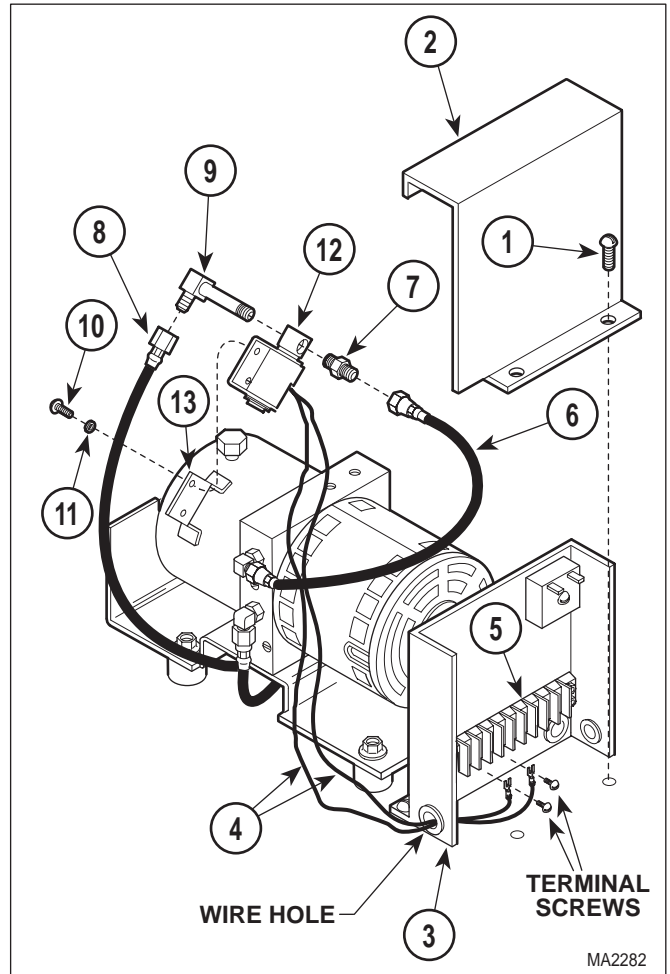

Figure 4-5. Anti-cavitation Solenoid Valve Removal / Installation
- (1) Unplug table power cord from outlet.
- (2) Remove motor cover assembly (Refer to para 4.2).
- (3) Remove two screws (1, Figure 4-5) and control cover (2) from control panel (3).
- (4) Loosen two terminal screws; then tag and disconnect anti-cavitation solenoid valve wires (4) from terminal block (5).